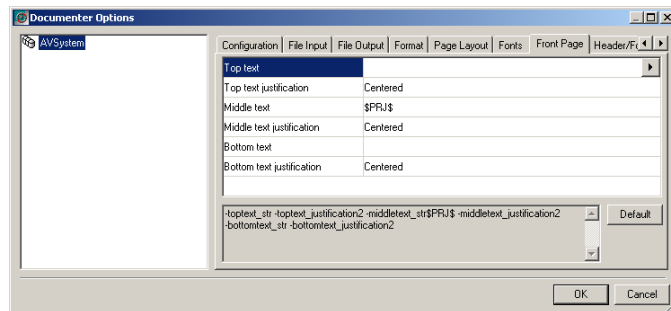

Figure 189: Documenter Options dialog box, Front Page tab
- 1 Open the Documenter Options dialog box (as described in *General*, page 261), and click the Front Page tab. See *Figure 189*, page 268.